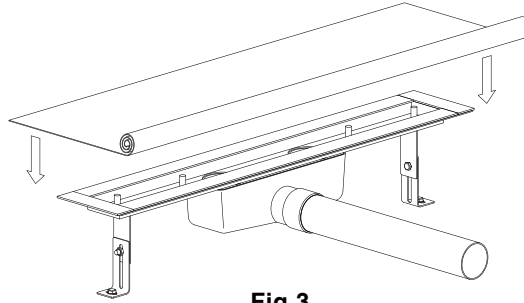
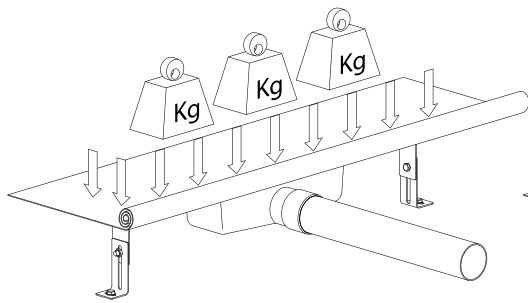

Fig.3
Fig.4
- 1.3- Presentar la canaleta y la lámina impermeable en la posición deseada de la ducha. Realizar el pegado de la lámina al ala de la canaleta por medio de las tiras de butilo, presionar firmemente hacia el interior y el exterior del ala, eliminando el aire de debajo de la lámina. (Ver Fig.3 y Fig.4).
- 1.3- Present the linear drain and waterproof sheet in the installation suitable position. First of all, make the adhesion between the waterproof sheet and the drain flange with the butyl strips (see fig. 3 and fig. 4). Press firmly towards inside and outside drain flange and be sure that you eliminate the air or bubbles below the membrane.
- 2.3- Present the linear drain and waterproof sheet in the installation suitable position. First of all, make the adhesion between the waterproof sheet and the drain flange with the adhesive/sealant applied (see fig. 3 and fig. 4).